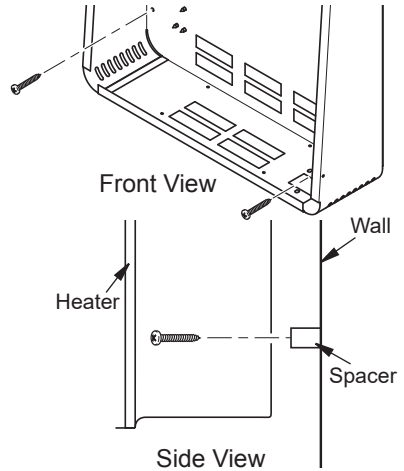

**Figure 9 - Mounting Heater Onto Mounting Bracket**
1. Locate two horizontal slots on back panel of heater (see Figure 9).